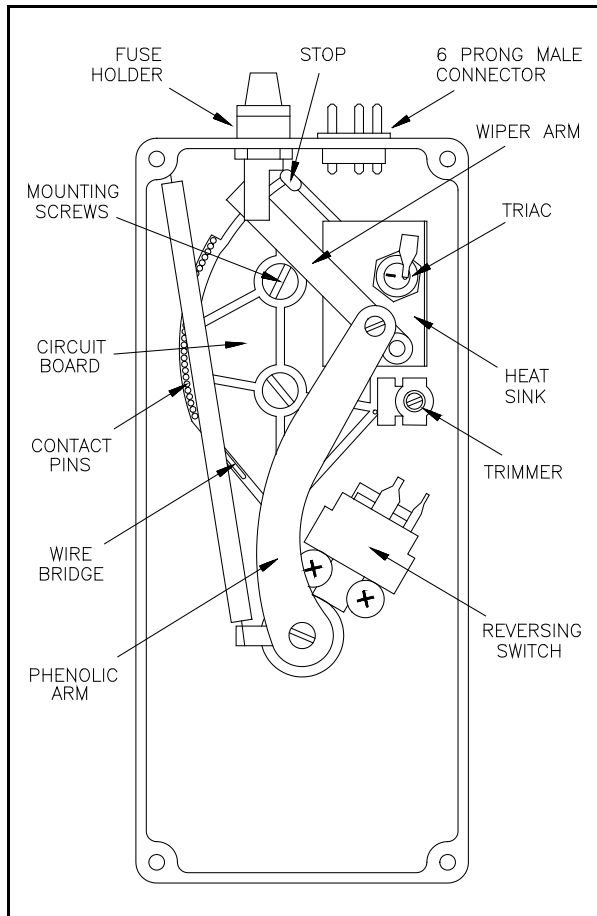

Figure 4. Foot Control Components
- 4.3.2 The wiper arm should always press firmly on the contact pins. See Figure 4. on page 7. If it is loose, the circuit board should be replaced. (Removing the phenolic arm and twisting the brass crank pin to bend the wiper arm toward the contact pins may help as a interim measure. This procedure is not encouraged because the wiper arm could be ruined. Also, the loose wiper arm is a symptom of a worn out circuit board.)
- 4.4.1 The wiper arm should swing from an OFF position, over the contact pins, to a full ON position in both forward and reverse. This position can be adjusted by loosening the mounting screws and moving the circuit board. See Figure 4. on page 7.
- 8.1.5 Remove the flat head and the round head screws that hold the curved phenolic arm. See Figure 4. on page 7. Remove the phenolic arm.